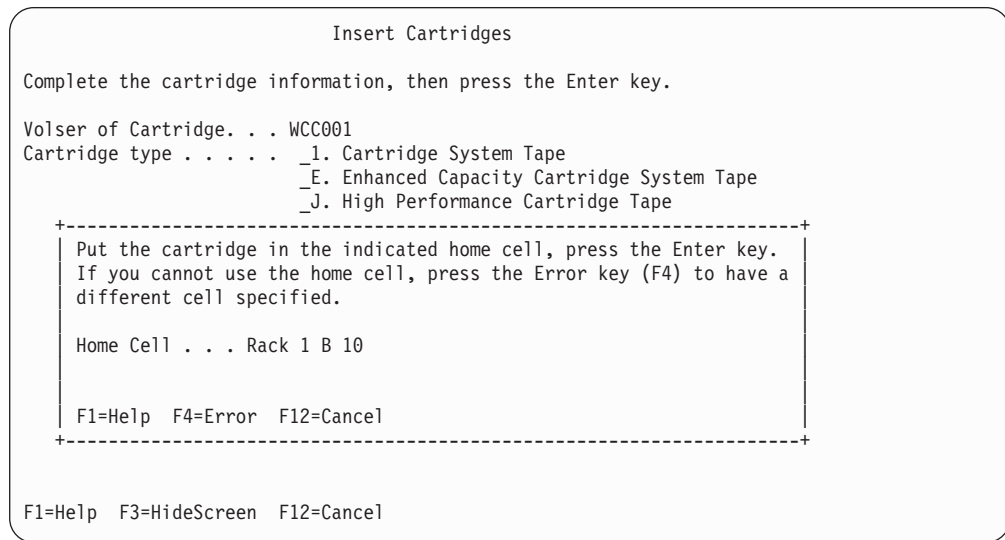

Figure 145. Manual Mode Insert Cartridges Pop-Up Window
5. Press the Enter key. A pop-up screen is displayed with the **Home Cell** rack storage location for the inserted cartridge. See Figure 145.